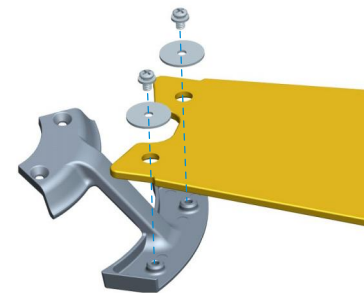

Fig 1.1
1.1 Locate 6 blade attachment screws and washers in the hardware pack. Secure each blade to the blade bracket with the screws and washers as shown in Fig 1.1.